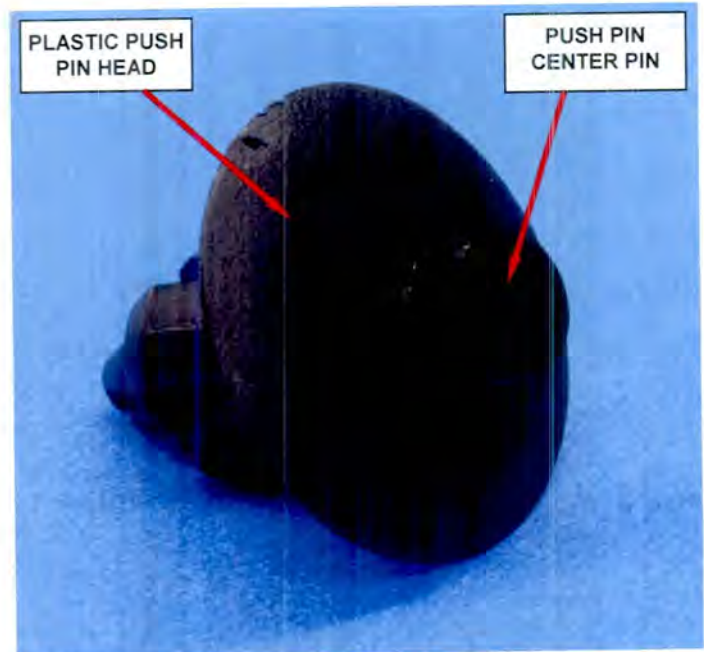

Figure 6 – Door Panel Push Pin
- a. Prepare the seven push pins for installation by pushing the center pin out so that the center pin is approximately 1/8" out from the head of the push pin (Figure 6).